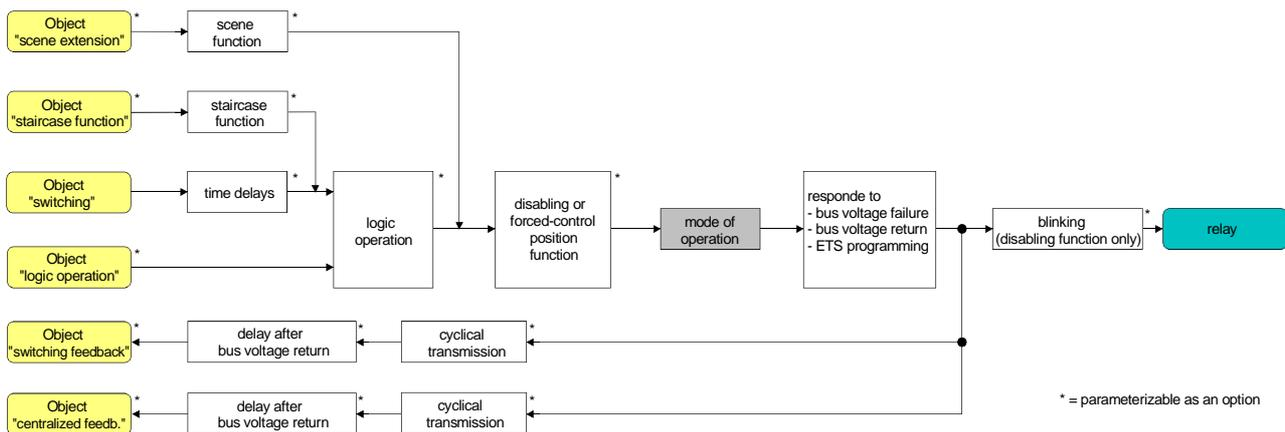

Fig. 6: Functional diagram "Mode of operation"
- 1 The logic switching state ("on - 1" or "off - 0") is set by the communication object "Switching" and influenced by the functions that can be optionally activated (e.g. timing/staircase functions, logic operations, disabling/forced-control position functions, scenes – cf. Fig. 6).